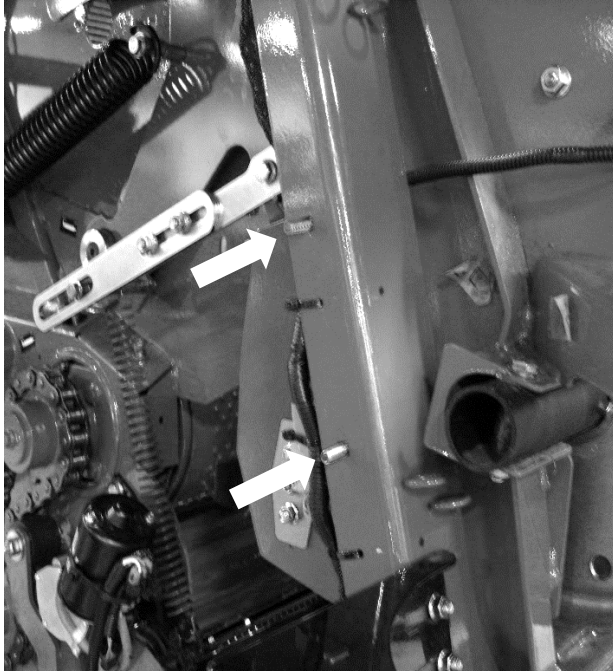

Figure 1
1. Locate mounting bolts on support bar of right side of baler (Figure 1).